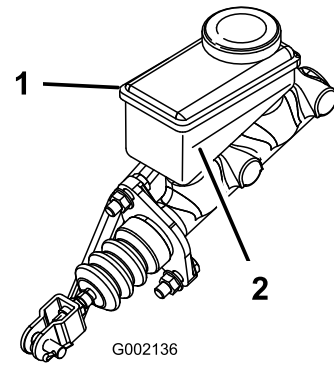

**Figure 53**
- Raise the hood to gain access to the master-brake cylinder and reservoir (Figure 53).
- Clean the area around the reservoir cap and remove the cap (Figure 53).
- Install the reservoir cap (Figure 53).